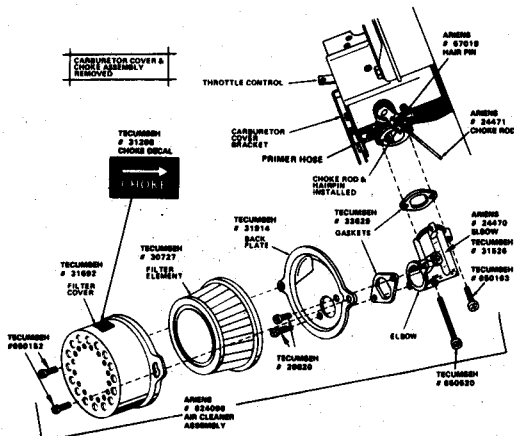

FIGURE 39
- Remove (4) screws that attach carburetor cover to engine and remove cover.
- Remove (2) screws that attach carburetor cover bracket to carburetor and remove. Figure 39. Replace screws being careful to lift up on upper right hand corner of inner bracket.
- Remove (2) screws that attach choke assembly to carburetor and remove assembly (choke, brake and rod). Retain choke bracket, carburetor cover bracket, rod and hardware for Sno-Thro operations.
- Attach air filter and air filter cover to the back plate with (2) 2½" long screws. Install choke decal on top of air filter cover.
- Attach air filter and air filter cover to back plate with (2) ½" screws. Install choke decal on top of air filter cover.
- This completes the installation. Figure 39. Reverse this procedure for converting to snow thrower.
- Remove (3) screws that attach carburetor cover to engine and remove cover.
- Remove (2) screws that attach carburetor cover bracket to carburetor. Retain bracket and hardware for Sno-Thro operations.
- Locate primer hose on top of carburetor as shown. Figure 39.
- Attach air filter and air filter cover to back plate with (2) ½" long screws. Install choke decal on top of air filter cover.
- This completes the installation, Figure 39. Reverse this procedure for converting to snow thrower.